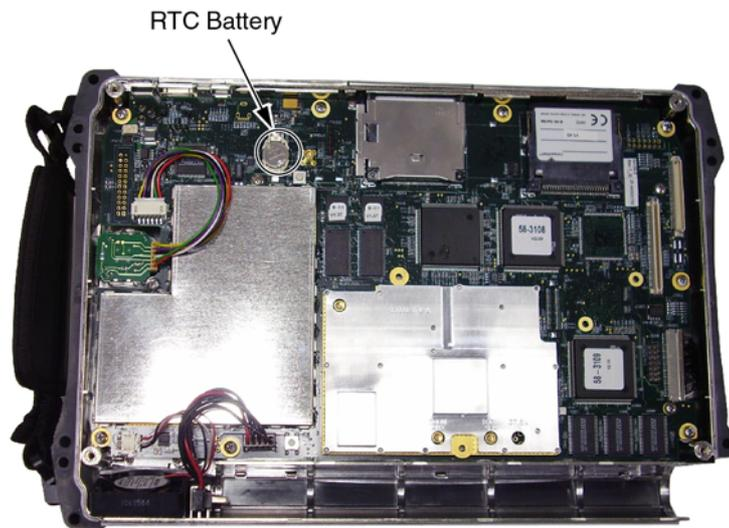

Figure 5-2. RTC Battery Location
2. Once the case is open, no further disassembly is required. The location of the battery is shown in Figure 5-2. Remove the old battery and install the new battery with the + on the battery facing up. Apply 2 small drops of RTV compound bridging the top of the battery and the holder as an extra precaution to hold the battery secure.